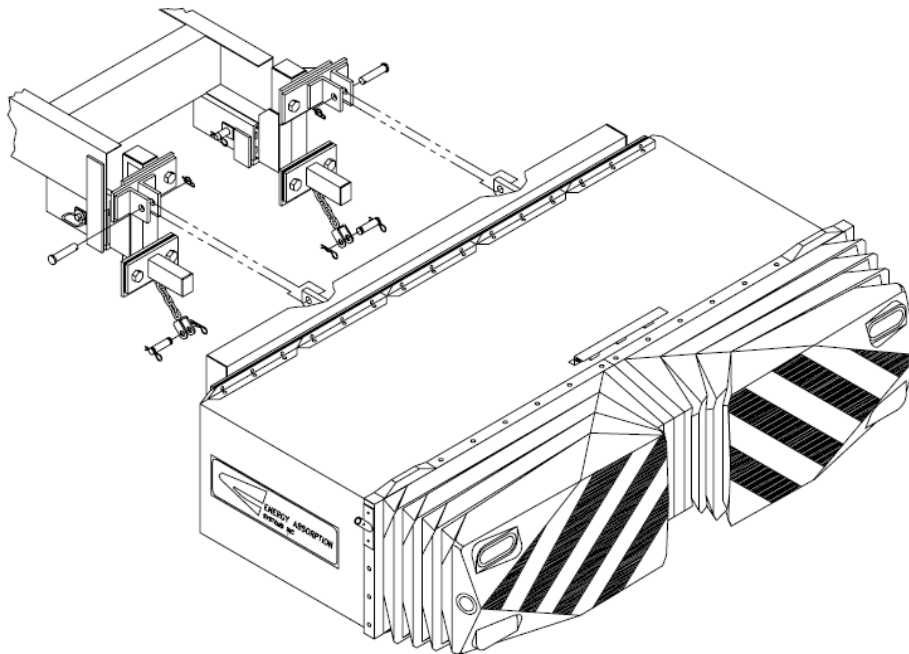

Figure 14
- B. Install attachment assembly to the Receiver Underride. Refer to Dwg. #35-24-62. Do not install shims (items 7 & 8) at this time.
- C. Install the two 1" diameter attachment pins and retaining pins which connect the backup to the upper support brackets and to the chains on the 8" standoffs, making sure they are properly installed. (See Figure 14) **